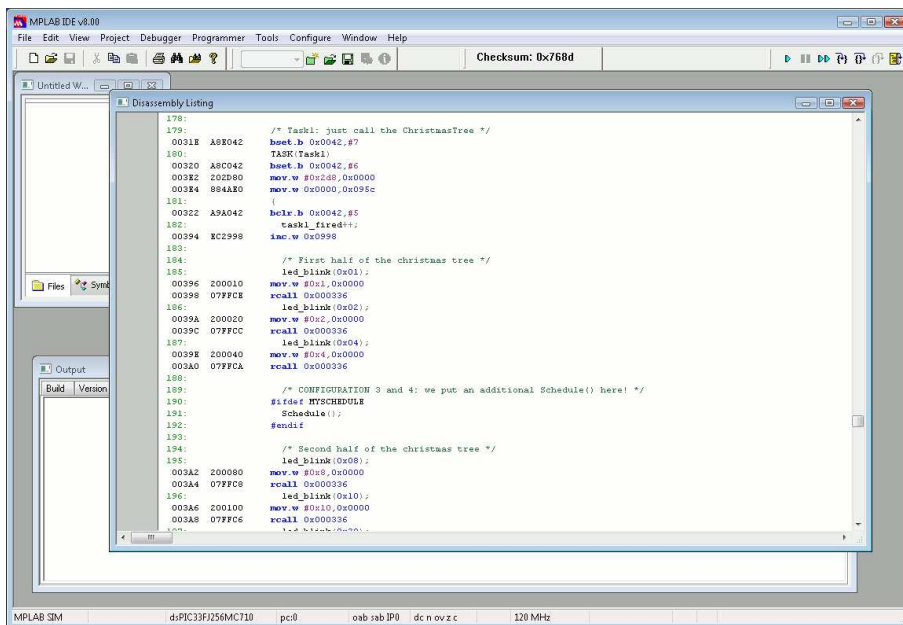

Figure 5.11: Debug symbols are correctly recognized.
11. You have now imported the COFF file inside MPLAB IDE. There is no need to create a MPLAB IDE Project, because the compilation process is handled by Eclipse. Figure 5.11 shows the "Disassembly Listing" and the "Program Memory" window. Please note that MPLAB IDE correctly recognizes the debug symbols of the source code produced inside Eclipse.